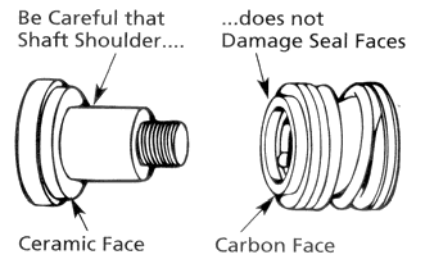

Figure 7-Do not nick seal on shaft shoulder
3. With thumb pressure, press ceramic seal half firmly and squarely into seal cavity (See Figure 7). If seal will not seat correctly, remove, placing seal face up on bench. Reclean cavity. Seal should now seat correctly. If the seal does not seat correctly after recleaning cavity, place a cardboard washer over polished seal face and carefully press into place using a piece of standard 3/4" (19mm) pipe as a press.
IMPORTANT: Be sure you do not nick or scratch seal face when passing it over threaded shaft end and shaft shoulder (see Figure 7). The carbon surface must remain clean or short seal life will result.